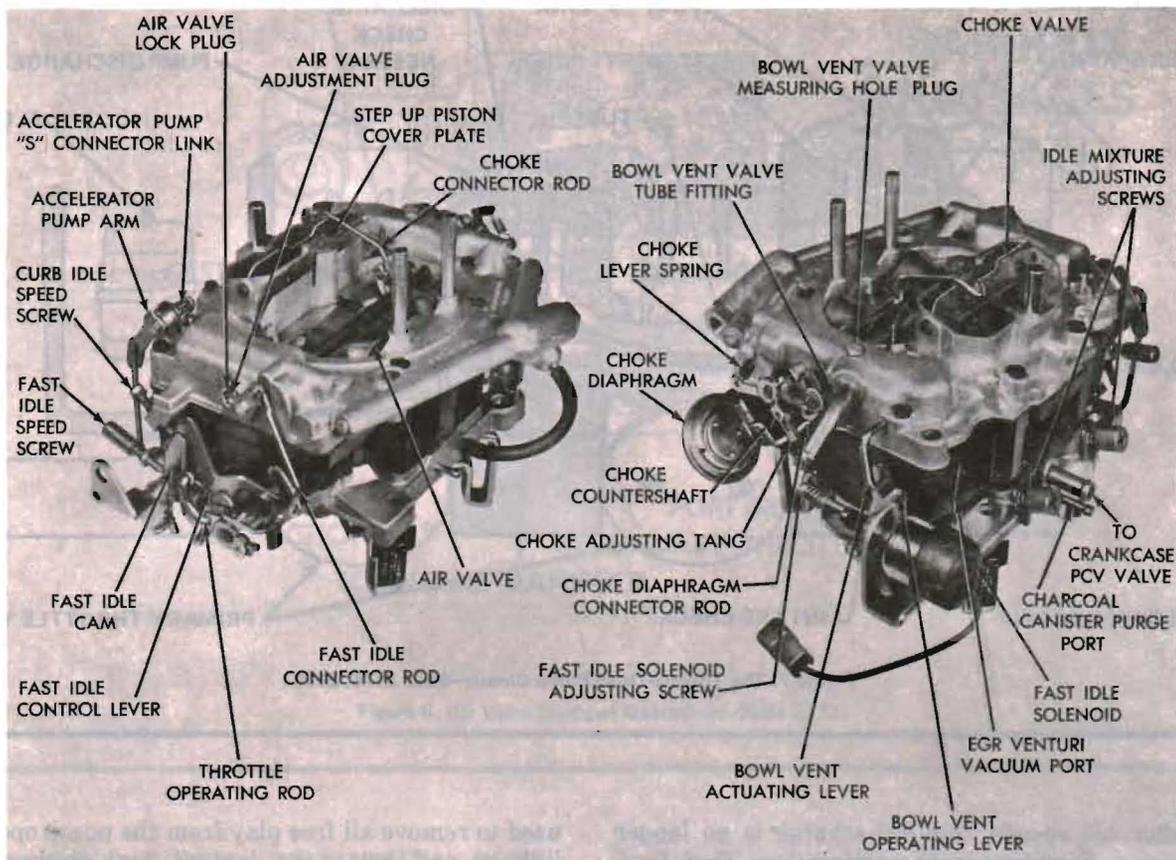

Figure 8. Carburetor on Repair Stand
(1) The venturi vacuum control system, used on the standard 440 CID engine requires a port in the side of carburetor above the throttle valve (Fig. 8).
(2) The ported vacuum control system, used on the high performance 440 CID engine obtains vacuum from a port in the base of the carburetor (Fig. 8).
1. Disassembling Carburetor (See figure 8.)